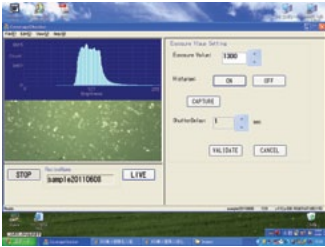

Fig.5 Setting exposure value window
tion. A Recipe is made by focusing on this characteristic. First, exposure time is set. Like for the flat surface, exposure time is adjusted to make histogram peak close to the middle value (127) with a complete coverage sample. Example is shown in Fig. 5.